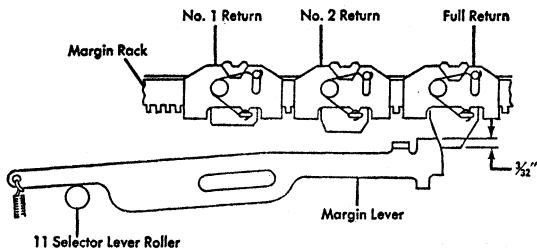

Figure 5. Selector Lever Roller Adjustment
11. THE SELECTOR LEVER ROLLER may be moved up or down in an elongated slot after loosening its locking nut. Adjust the roller to give approximately $3/32$ " bite on the full return margin stop. The clearance under the No. 2 margin stop should be approximately $1/64$ " (Figure 5).